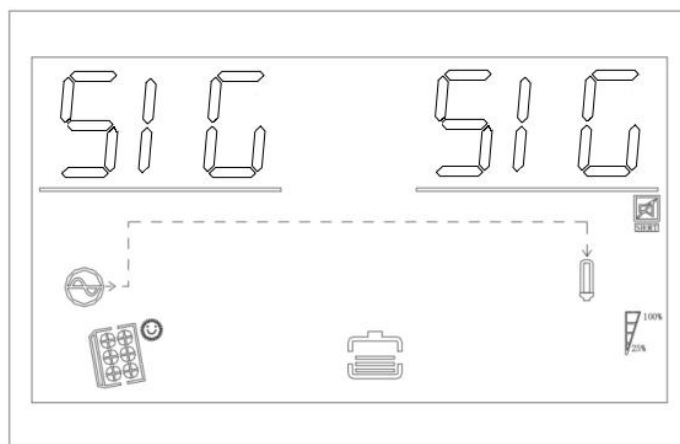

Figure 1-13 Display Page 10 (PV Power)
- 5KVMH: Displays photovoltaic power generation data (see Figure 1-13).